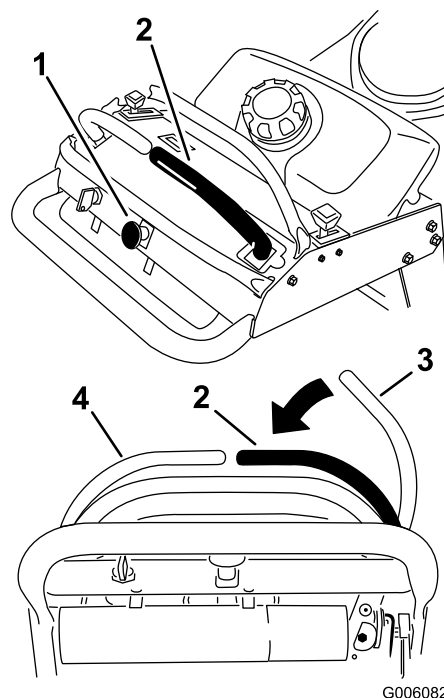

Figure 10
1. To engage the mower blades, move the right side motion-control lever to the center, unlocked position (Figure 10).